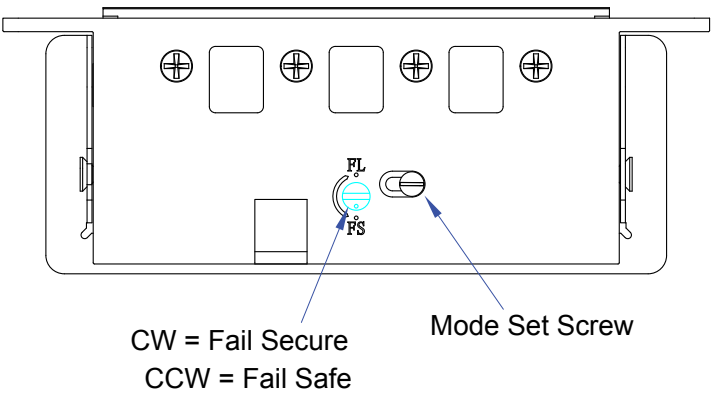

Figure 4.1 Strike Operation
The strike is designed to operate in fail-secure (FL) mode by default. However, if needed, it can be changed to fail-safe (FS) mode by adjusting the mode screw as follows (Figure 4.1):
2. Turn the mode screw counterclockwise (CCW) to enable fail-safe mode or clockwise (CW) to enable fail-secure mode.